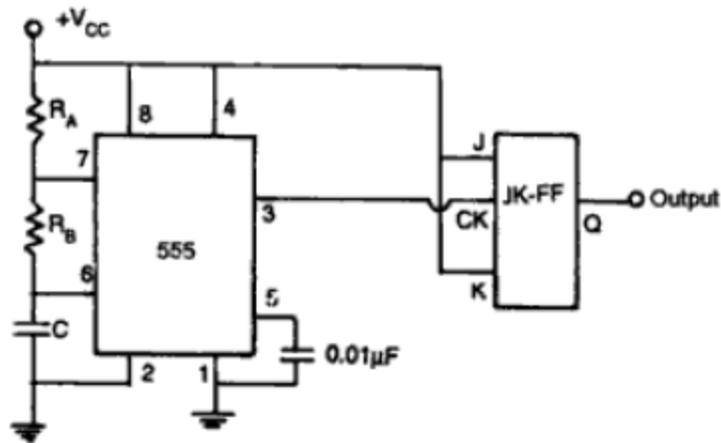

Figure 20: Symmetrical waveform generator
- Symmetrical square wave generator by adding a clocked JK flip-flop to the output of the non-symmetrical square wave generator is shown in Fig. 20.